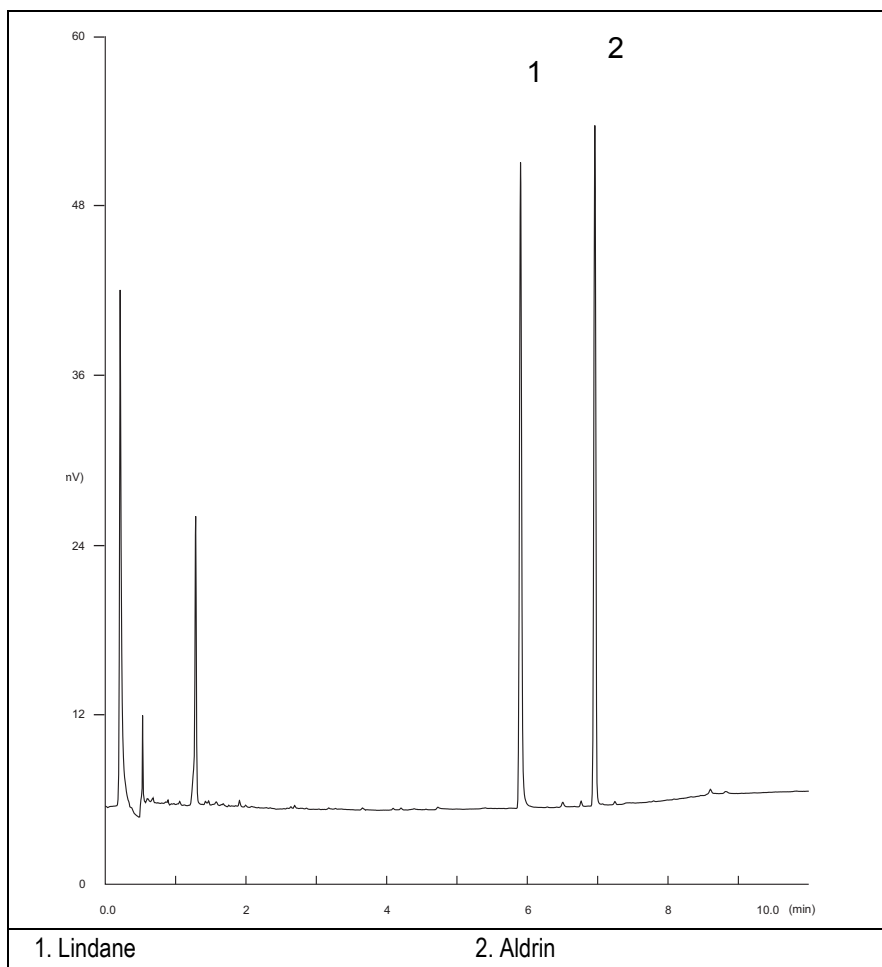

Figure 10-1. ECD-PPKD Injection
14. When the GC is ready, inject the test mixture and press **START** on the GC to begin the checkout run. The resulting chromatogram should look like the one shown in *Figure 10.1*.